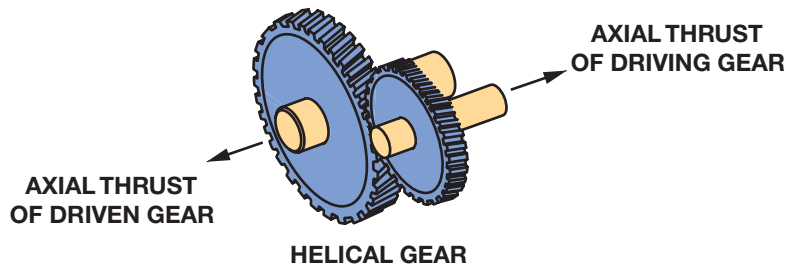

FIGURE 1-10 The teeth of a helical gear are cut on a slant, and this produces an axial or side thrust.
- **Helical gear**—Helical gears are the most used of all gears used in transmissions. These gears have teeth cut in a spiral or helix shape. ● **SEE FIGURE 1-10.**
Helical gears are quieter than spur gears, but generate axial or end thrust under a load. A helical gear is stronger than a comparable-sized spur gear and has an almost continuous power flow because of the angled teeth. ● **SEE FIGURE 1-10.**